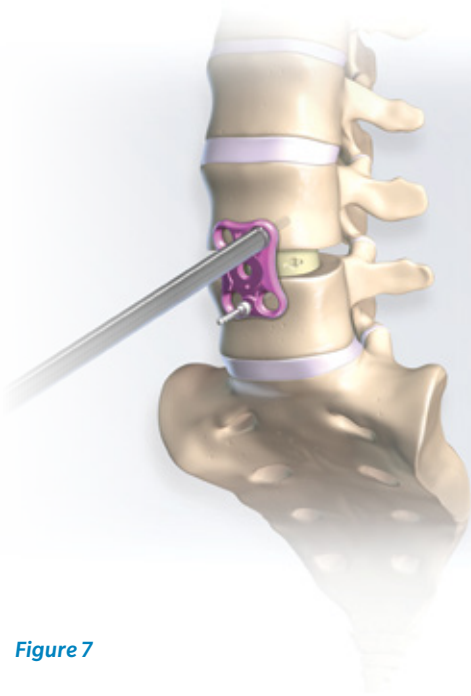

Figure 7
- Insert the tip of the instrument into the screw holes on the plate, and insert the drill or awl into the bone until the stop is reached. This provides 20mm of penetration (**Figure 7**).